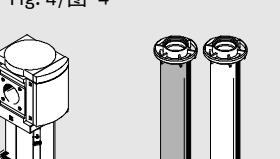

Fig. 6/图 6
- Pull the filter bowl forwards and backwards carefully away from the device (→ fig. 6). The filter cartridge will then loosen itself and can be removed together with the filter bowl.